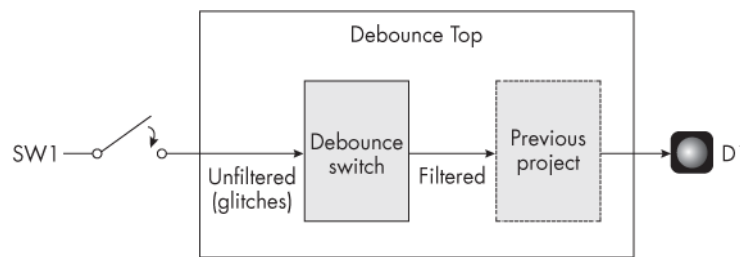

Figure 5-6: The Project #4 block diagram
The number of bounces on a switch is somewhat random, so pushing the switch enough times got the LED to toggle successfully. Still, it would be better if the LED toggled as expected each time the switch is pressed and released. To make this happen, we need to add a *debounce filter* to the switch. That is, we need to program the FPGA to ignore the bounces. Figure 5-6 illustrates how this will work.
The code matches the block diagram in Figure 5-6. At the highest level we have `Debounce_Project_Top`, which instantiates two other modules. The first is the new debounce filter **❶**, which we'll examine next. The second is the `LED_Toggle_Project` module that we created in the previous chapter **❸**. It's worth taking a minute to follow the signals here. We can see the input signal `i_Switch_1` going into the debounce filter. Out of that comes `w_Debounced_Switch`, which is the debounced version of this input. This is passed into the `LED_Toggle _Project` module. The output of that module is `o_LED_1`, which will be connected to the LED pin on your development board. Note that indicating the direction of your signals via their names, as we do here with the `i_` and `o_` prefixes, becomes very helpful as your designs get larger and incorporate more signals.